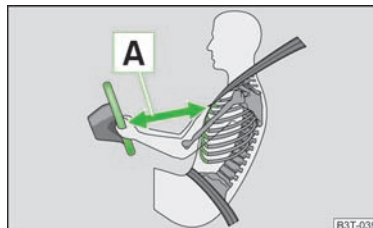

Fig. 121
- For the driver and front passenger it is important to maintain a distance of at least 25 cm to the steering wheel or dash panel » Fig. 121 **A**. Not maintaining this minimum distance will mean that the airbag system will not be able to properly protect you - hazard! The front seats and the head restraints must always also be correctly adjusted to match the body size of the occupant.